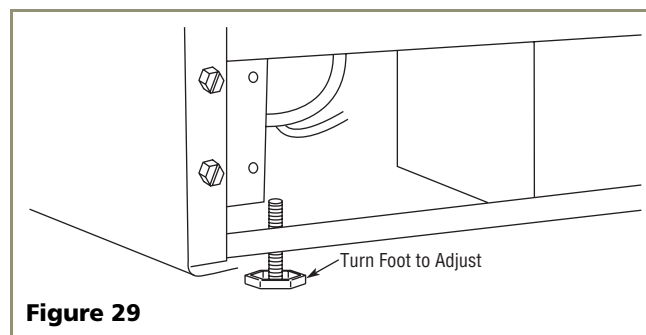

Figure 29
2. If the Wine Captain® is not level, adjust the feet on the corners of the unit as necessary (see **Figure 29**).